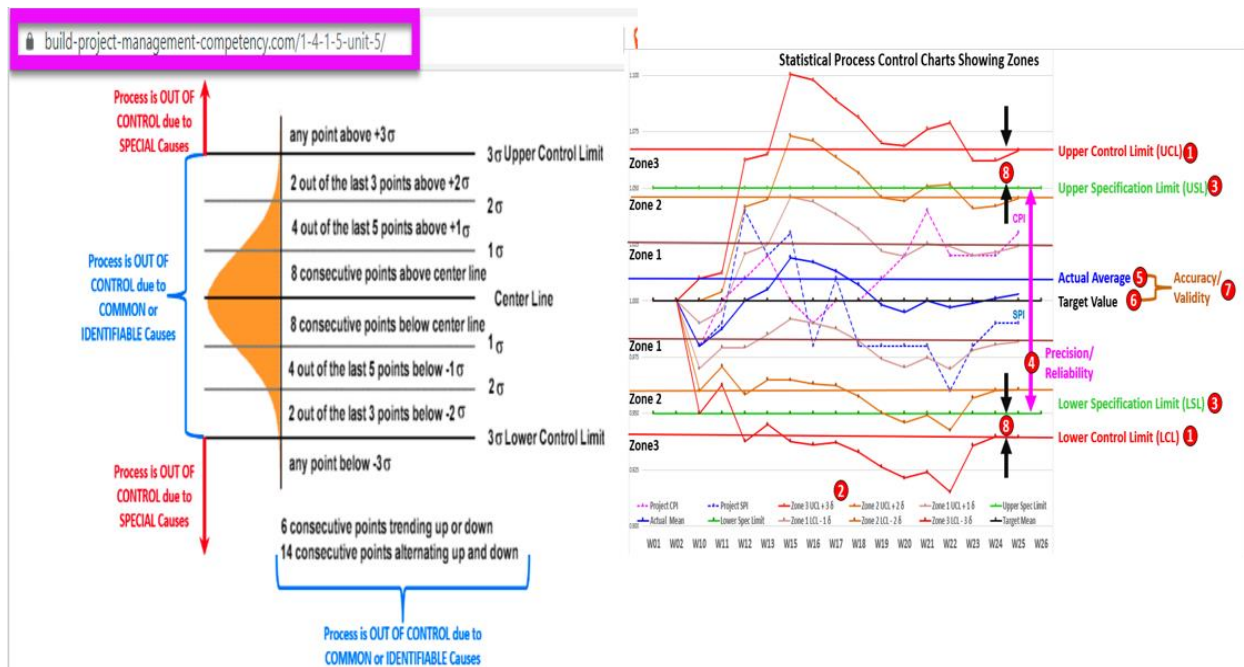

Figure 5- Statistical Process Control Zone Analysis
When the SPI and CPI values are plotted on a database of comparable or similar projects (Figure 5), we can see that we can plot the MEAN SPI (1) and CPI (2) vs the TARGET (“Bullseye”) of 1.00 (3). As a “for-profit” company, we have established the Upper and Lower SPECIFICATION limits of +/- 5%. (SPI and CPI between 0.95 and 1.05) This range is user-defined. (4)